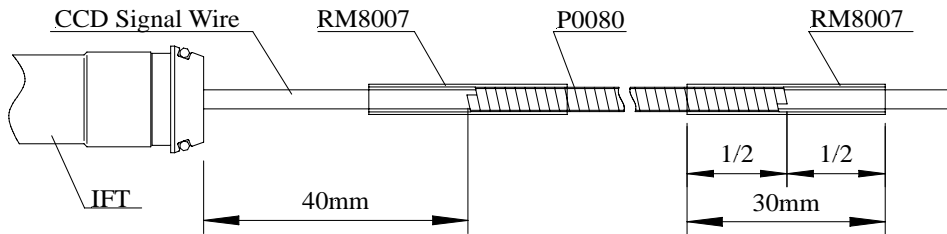

Fig. 3-4-1
- 3) Place P0080 so that the distance between P0080 and IFT become 40mm as shown in Fig.3-4-1.